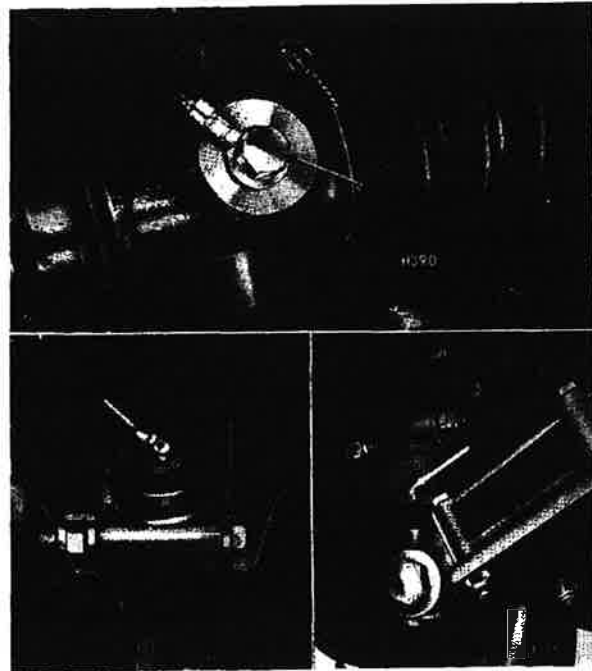

Fig. 76 (left) Fig. 77 (upper) Fig. 78 (right)
**Upper Ball Joint (Fig. 76)**